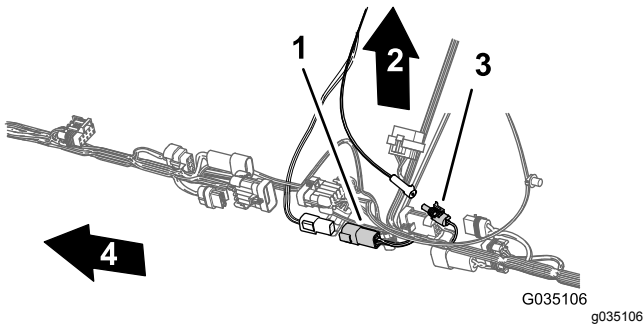

Figure 92
7. To ease connecting the navigation-electrical and data harnesses, ensure that the 1-socket connector of the rear-wire harness and the 4-socket connector of the rear-wire harness are aligned to the top of the harness (Figure 92).